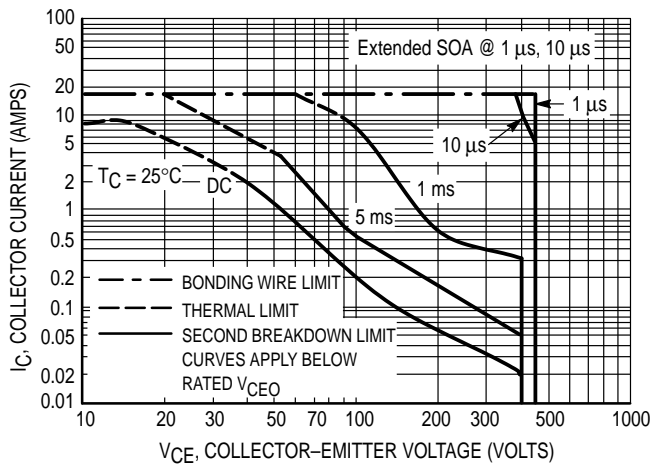
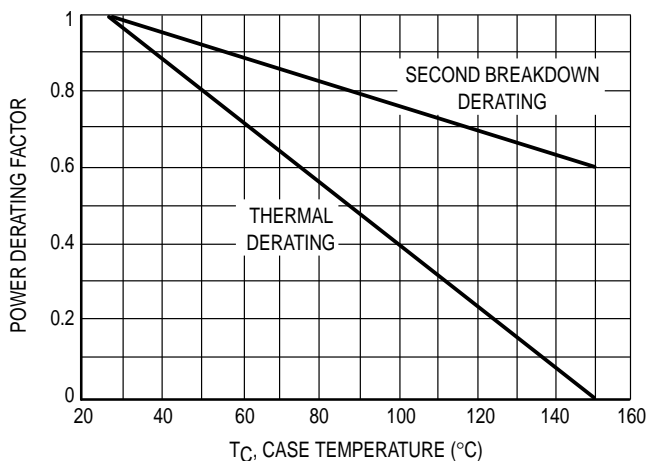

Figure 6. Maximum Forward Bias Safe Operating Area
Figure 8. Forward Bias Power Derating
The data of Figure 6 is based on  $T_C = 25^\circ\text{C}$ ;  $T_{J(pk)}$  is variable depending on power level. Second breakdown pulse limits are valid for duty cycles to 10% but must be derated when  $T_C \geq 25^\circ\text{C}$ . Second breakdown limitations do not derate the same as thermal limitations. Allowable current at the voltages shown on Figure 6 may be found at any case temperature by using the appropriate curve on Figure 8.
The sustaining or active region voltage requirements in switching applications occur during turn-on and turn-off. If the load contains a significant capacitive component, high current and voltage can exist simultaneously during turn-on and the pulsed forward bias SOA curves (Figure 6) are the proper design limits.
- (1) The device thermal limitations are not exceeded.
- (2) The turn-on time does not exceed  $10 \mu s$  (see standard pulsed forward SOA curves in Figure 6).